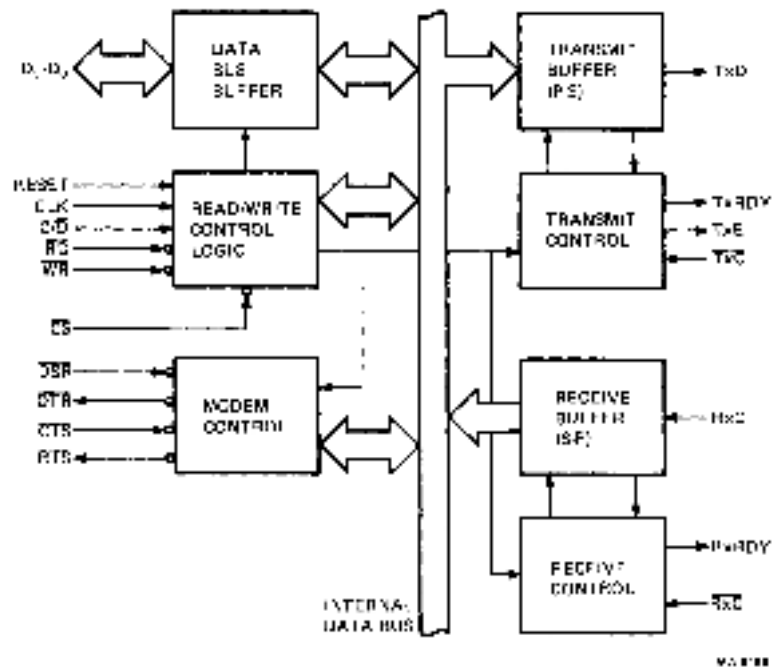

Figure 5-27 8251-A Block Diagram
5.2.3.1 Communication Interface (8251A) -- This interface (Figure 5-27) performs the following three functions.